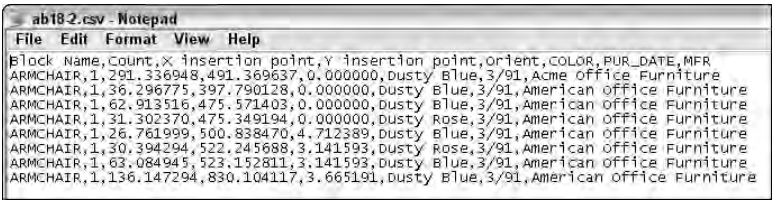

Figure 18-30: The output file that results from extracting the attributes in the office building plan
13. To view the output file, from the Windows task bar choose Start ⇨ Run. Type **Notepad** and click Run. In Notepad, choose File ⇨ Open and locate the `ab18-2.csv` file in your AutoCAD Bible folder. (You may need to change the Files of type drop-down box to All Files.) Click Open. It should look like Figure 18-30.